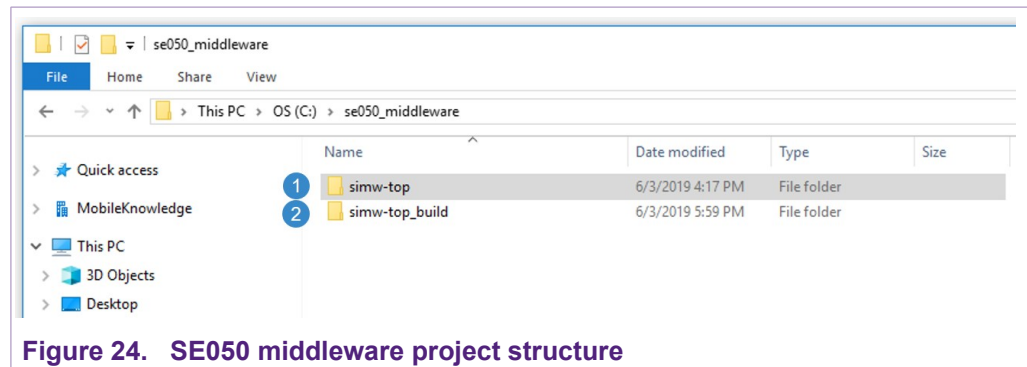

Figure 24. SE050 middleware project structure
- Your project directory should now contain two folders: a (1) `simw-top` folder and a (2) `simw-top_build` folder as shown in Figure 24: